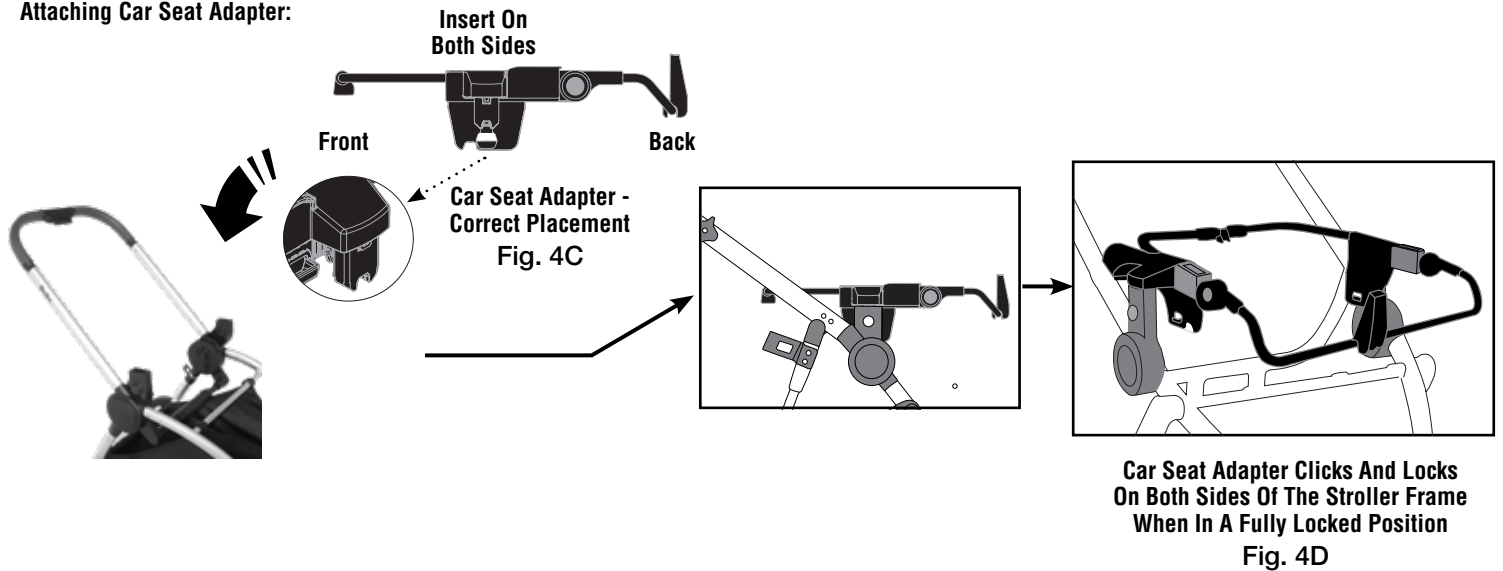

Fig. 4E:
**ATTACHING CAR SEAT:** Attach car seat adapter to the stroller frame (Fig. 4C) until it clicks into a fully locked position (Fig. 4D). Place car seat into car seat adapter until it "CLICKS" into a fully locked position. Britax car seats "CLICK" and lock on the both sides of the adapter (Fig. 4E). Make sure car seat is fully fastened by pulling upward.